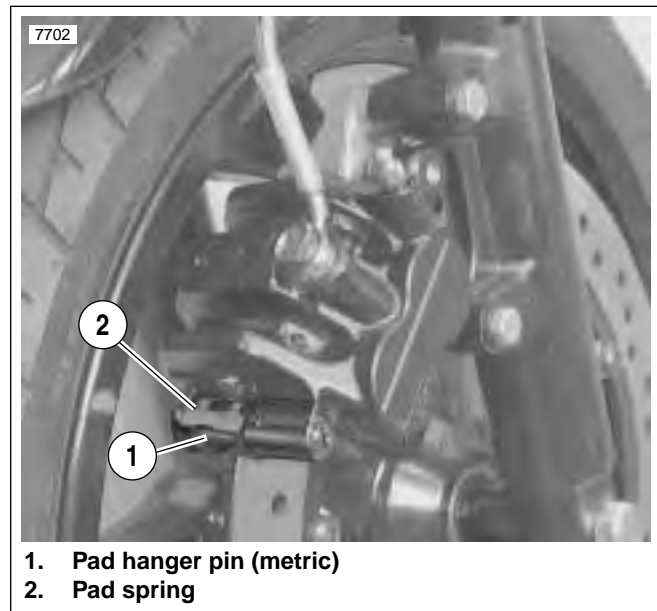

Figure 2-43. Pad Spring
3. See Figure 2-43. Install brake pads.
- a. Install pad spring (2) with opening at top as shown.
- d. See Figure 2-43. Install pad hanger pin (1) (metric). Tighten to 132-180 in-lbs (15-20 Nm).